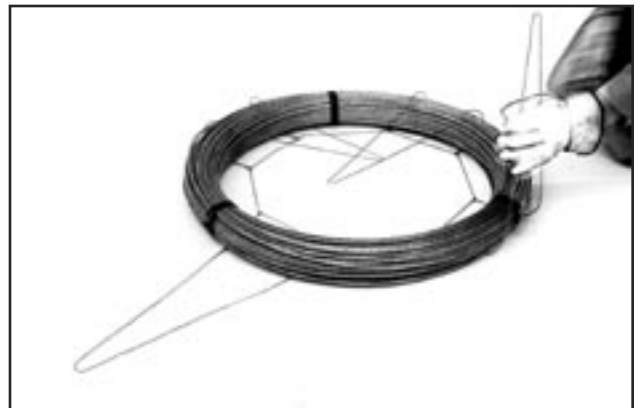

Figure 4 - Fold arms of dispenser over the coil
1.03 Fold the arms of the dispenser over the coil. The legs should overlap each other by 2" so that the legs can be twisted together to secure the dispenser. If the legs are not long enough by themselves, tie wire can be used to secure the legs together. (Figure 4)